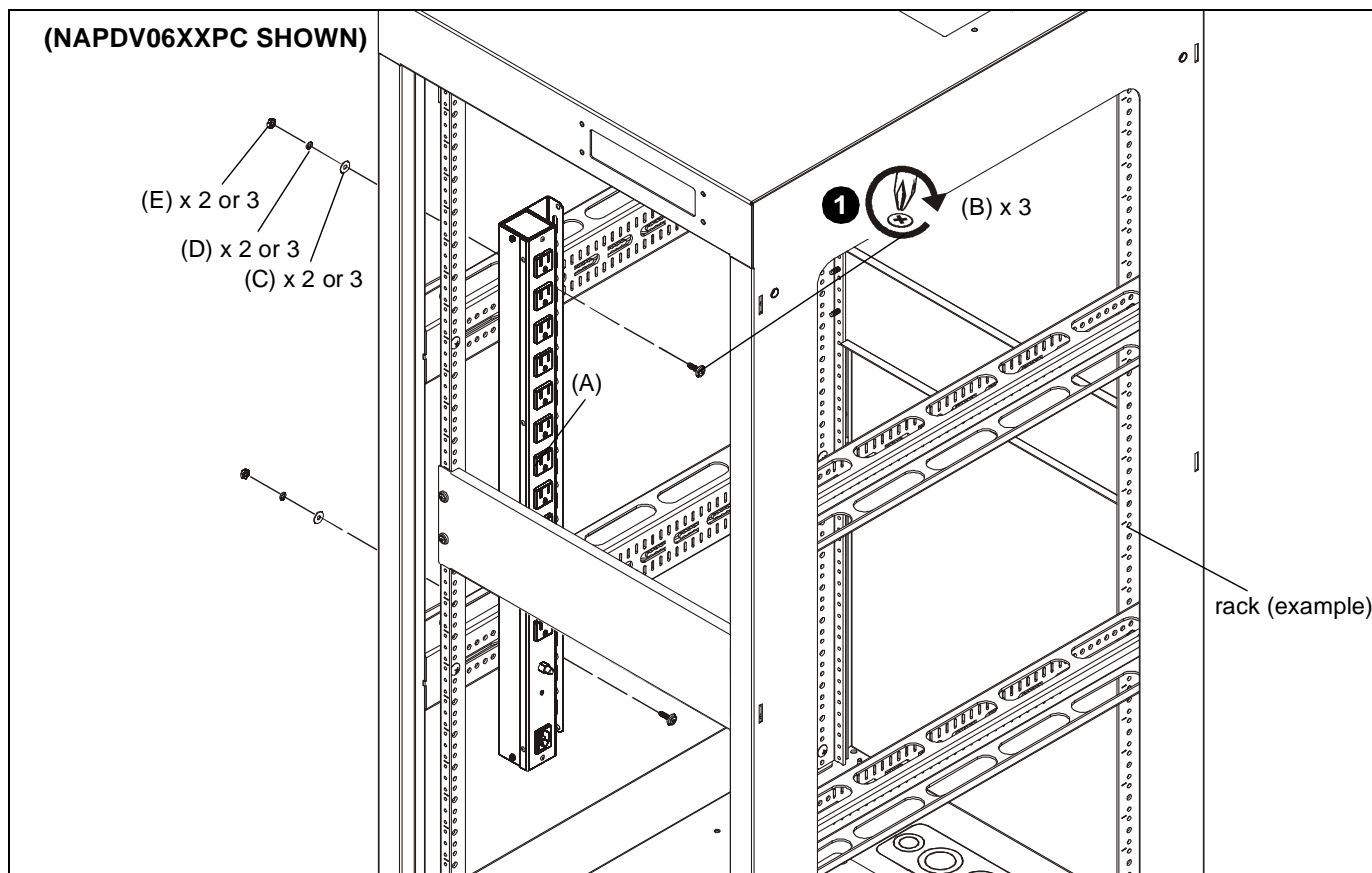

Figure 2
1. Use two or three #10-32 x 3/4" Phillips screws (B), #10 washers, #10 lock washers (D) and #10-32 lock nuts (E) to secure power strip (A) to rack. (See Figure 2)